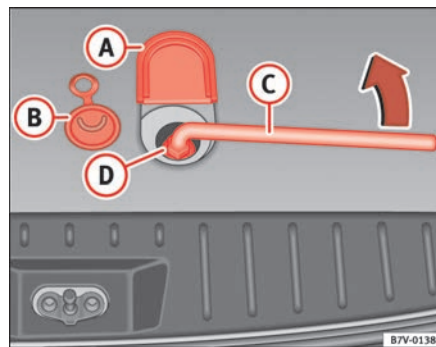

Fig. 152 Taking out the spare wheel
1. Lift the cover ① ⇒ fig. 152 located on the floor of the luggage compartment, next to the tailgate lock.
2. Pull the ring of the rubber seal ② upwards.
3. Remove the box spanner ③ from the vehicle tools.
4. Fit the box spanner on the bolt, to the maximum, and hold in this position. At the same time press the safety ring ④ downwards ⇒ .
5. Turn the box spanner ③ several times to the left, until the spare wheel can be fitted, hanging from a wire, vertically behind the vehicle.
4. Remove the box spanner $\Rightarrow$ page 234, fig. 152 **C** and turn the bolt on the floor of the luggage compartment several times to the right, until the defective wheel is firmly secured against the inside of the luggage compartment floor $\Rightarrow$  in "Taking out the spare wheel" on page 234.
5. Close the opening with the rubber seal $\Rightarrow$ page 234, fig. 152 **B** and lower the cover **A**.